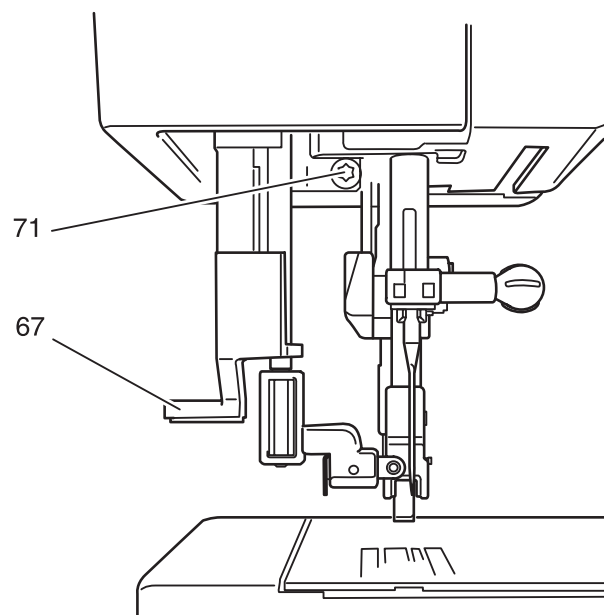

Fig. 42
- Using threader key 67, place threader prong 66 at the front in the needle eye.
- Loosen screw 71 by only 1/8 of a turn (fig. 42).